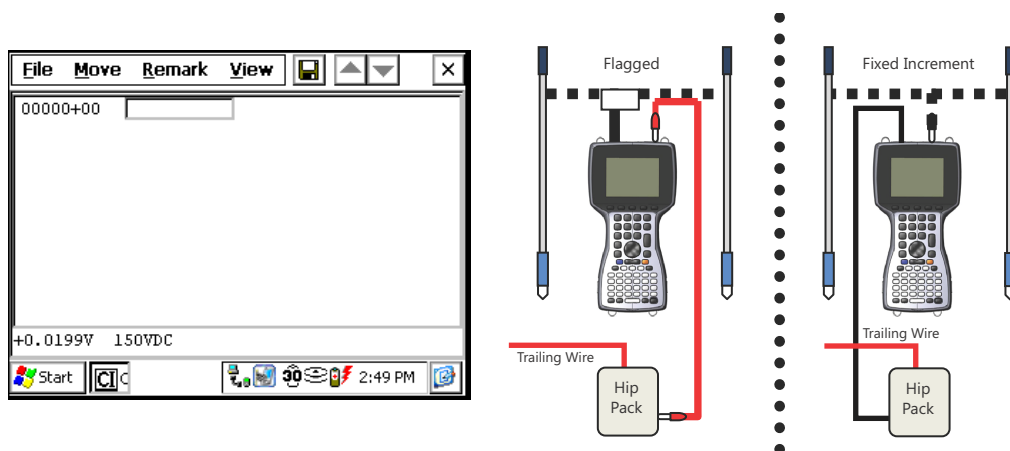

Figure 3-1. CeCi Main Window
- 1 Plug test leads in the red positive (+) and black negative (–) jacks on the Allegro connector panel; positive to positive, negative to negative (Figure 3-1).
- 2 Click the **CeCi** icon on the Allegro desktop to display the main CeCi window (Figure 3-1).